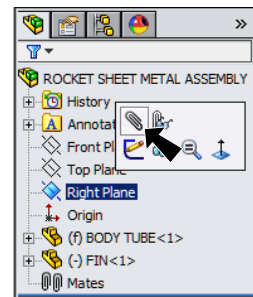

Fig. 4
Step 4. Click **Right Plane**  in the Feature Manager and click **Mate**  on the Context toolbar, **Fig. 4**.